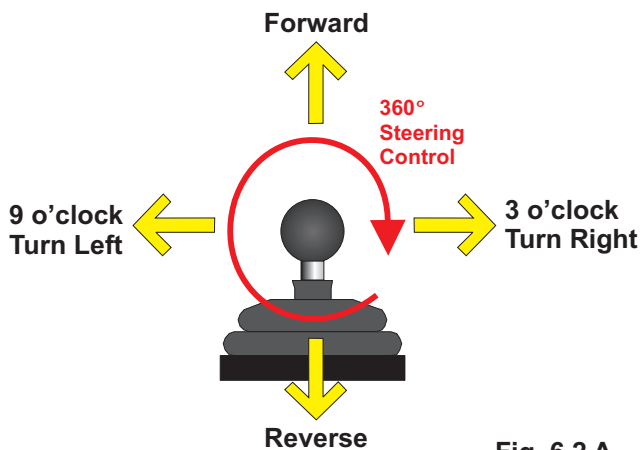

Fig. 6.2 A
- **Forward** - Pushing the joystick straight forward, toward the bow of the vessel, will cause the vessel to move in a forward direction. (See figure 6.2 A)
- For **sharp turns**, push the joystick to the 3 o'clock position to turn to starboard (right) or the 9 o'clock position to turn to the port (left). (See fig. 6.2 A)